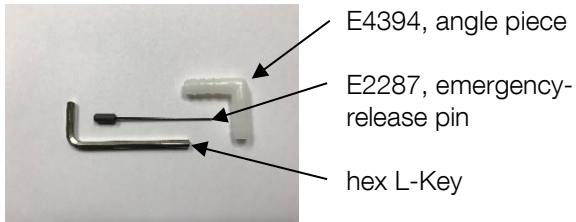

Fig. 7.2.1
- 1 angle piece (plastic), for the drainage hose (for free-running drain), E4394, fig. 7.2.1
- 1 release-pin, E2287, fig. 7.2.1
- 1 hex L-key, fig. 7.2.1